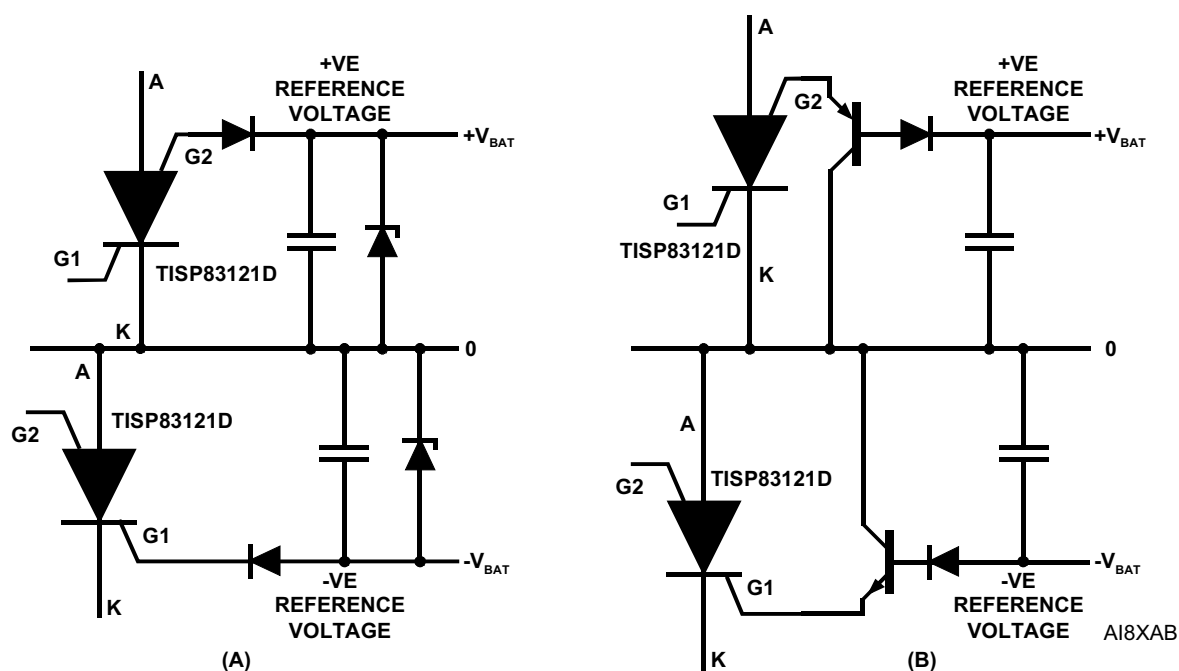

Figure 3. REFERENCE VOLTAGE CONTROL BY (A) BREAKDOWN DIODES OR (B) BY TRANSISTOR BUFFERS
In many designs, the battery supply voltages are generated by switching mode power supplies. This type of power supply cannot be charged like a battery. Feeding a charging current to a switching mode power supply will usually cause the supply to stop switching and the voltage to rise. The gate current of the TISP83121D is a charging current for the supply. To avoid the supply voltage from rising and damaging the connected SLICs, an avalanche diode voltage clamp can be connected across the supply (Figure 3. (A)).
Another approach is to reduce the gate charging current for the supply by a transistor buffer (Figure 3. (B)). If the transistor gain was 50, a 200 mA gate current would be reduced to a supply charging current of $200/50 = 4$ mA. In both cases, the dissipation in the control devices can be substantial and power capability needs to be taken into account in device selection.